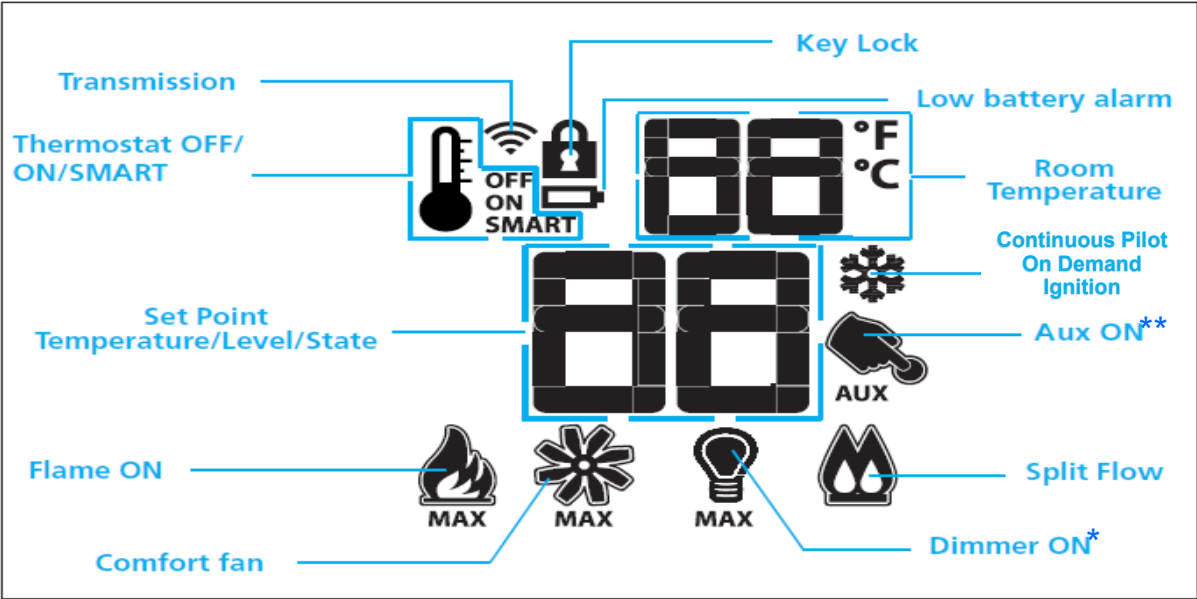

Fig. 2: Transmittter LCD display.
2. Locate the Hinges on the Lower Louver. (Fig. 2)